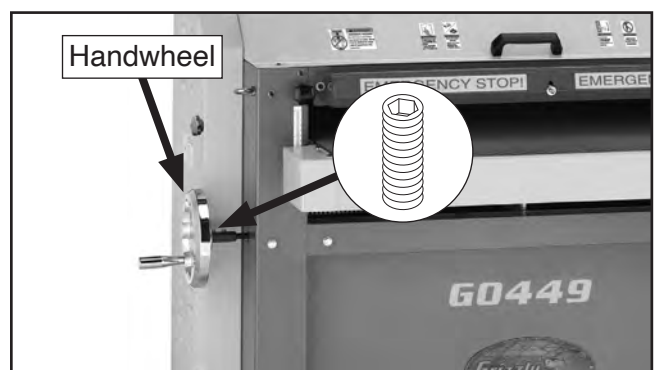

Figure 18. Handwheel installed.
11. Place handwheel over shaft (see **Figure 18**) and tighten set screw in handwheel hub.